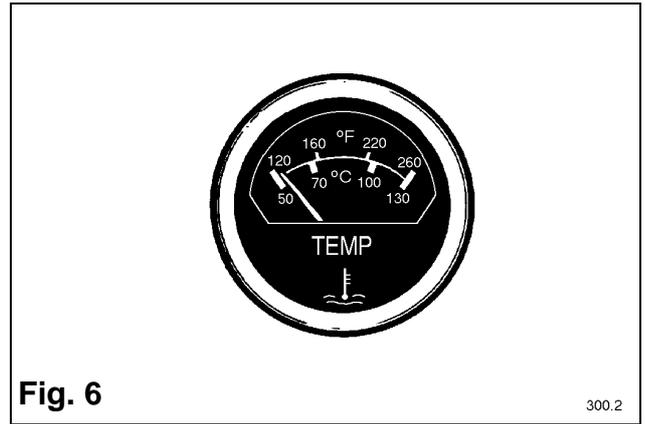

Fig. 6
- (2) Coolant temperature 'A' bank
- (3) Lubricating oil temperature 'A' bank
- (4) Lubricating oil pressure 'A' bank
- (5) Taco and hours run
- (6) Keyswitch
- (7) Fuse holder
- (8) Coolant temperature 'B' bank
- (9) Lubricating oil temperature 'B' bank
- (10) Lubricating oil pressure 'B' bank
- (11) Exhaust temperature gauge (when fitted)
**Engine water temperature gauge (Fahrenheit/Centigrade) Fig. 6**